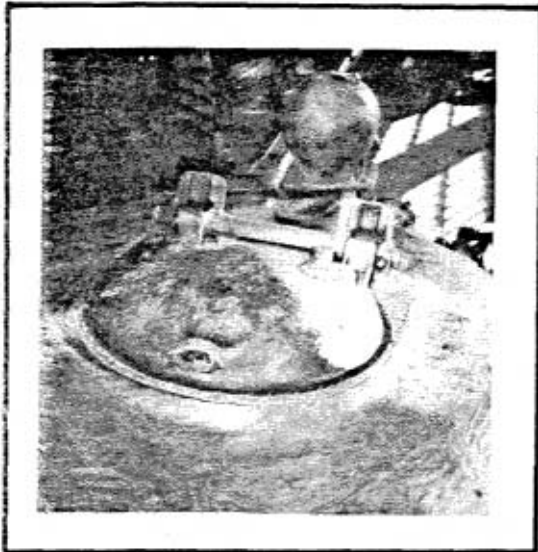

FIG. 3-41. LOADER'S HATCH T-62
b. Loader's Hatch (Figs. 3-41, 3-42, 3-43). The loader in a T-62 has a fixed hatch that can be secured in either the locked open or locked closed positions. In a T-62A, the loader's hatch is mounted on a cupola to which is also attached a machine gun mount for a 12.7 mm DShK anti-aircraft machine gun. This cupola can be rotated 360°. The loader's hatch can be locked in either the open or closed position and has a combat lock identical to the type found on the Tank Commander's hatch.